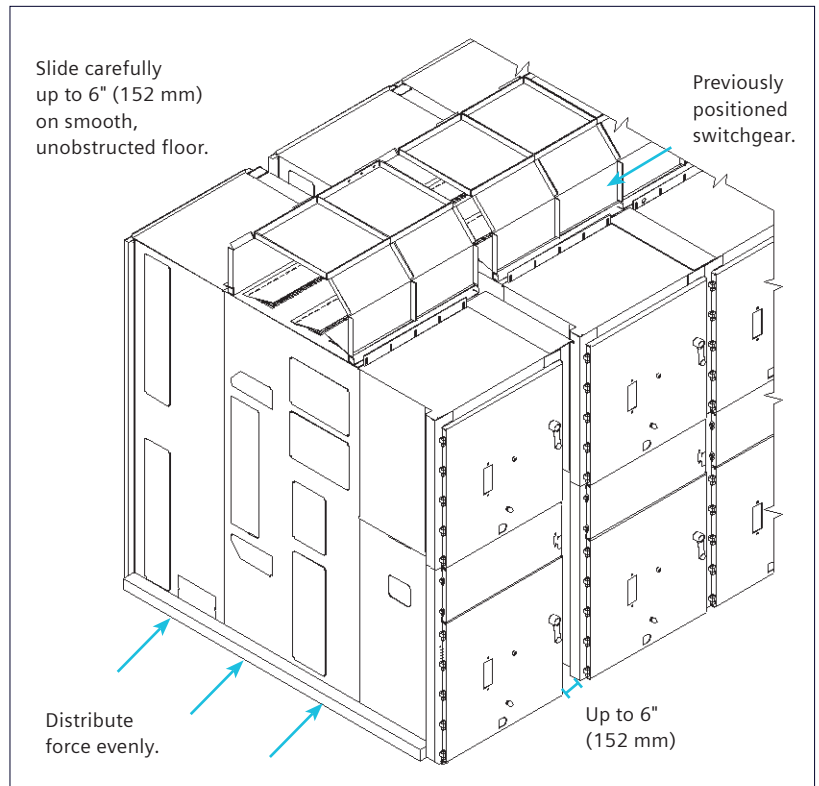

Figure 4: Moving indoor switchgear in obstructed areas without crane - final positioning
Figure 4: Moving indoor switchgear in obstructed areas without crane - final positioning shows a method of moving the switchgear into the final position after it has been moved near to the final position using another method.
7. The equipment may be slid sideways up to 6" (152 mm) to join the shipping split. Any sliding force must be carefully applied across the bottom 4" (100 mm) of the switchgear side with proper cribbing to fully distribute the force across the full depth of side (refer to Figure 4: Moving indoor switchgear in obstructed areas without crane - final positioning on page 13) for illustration of this technique.